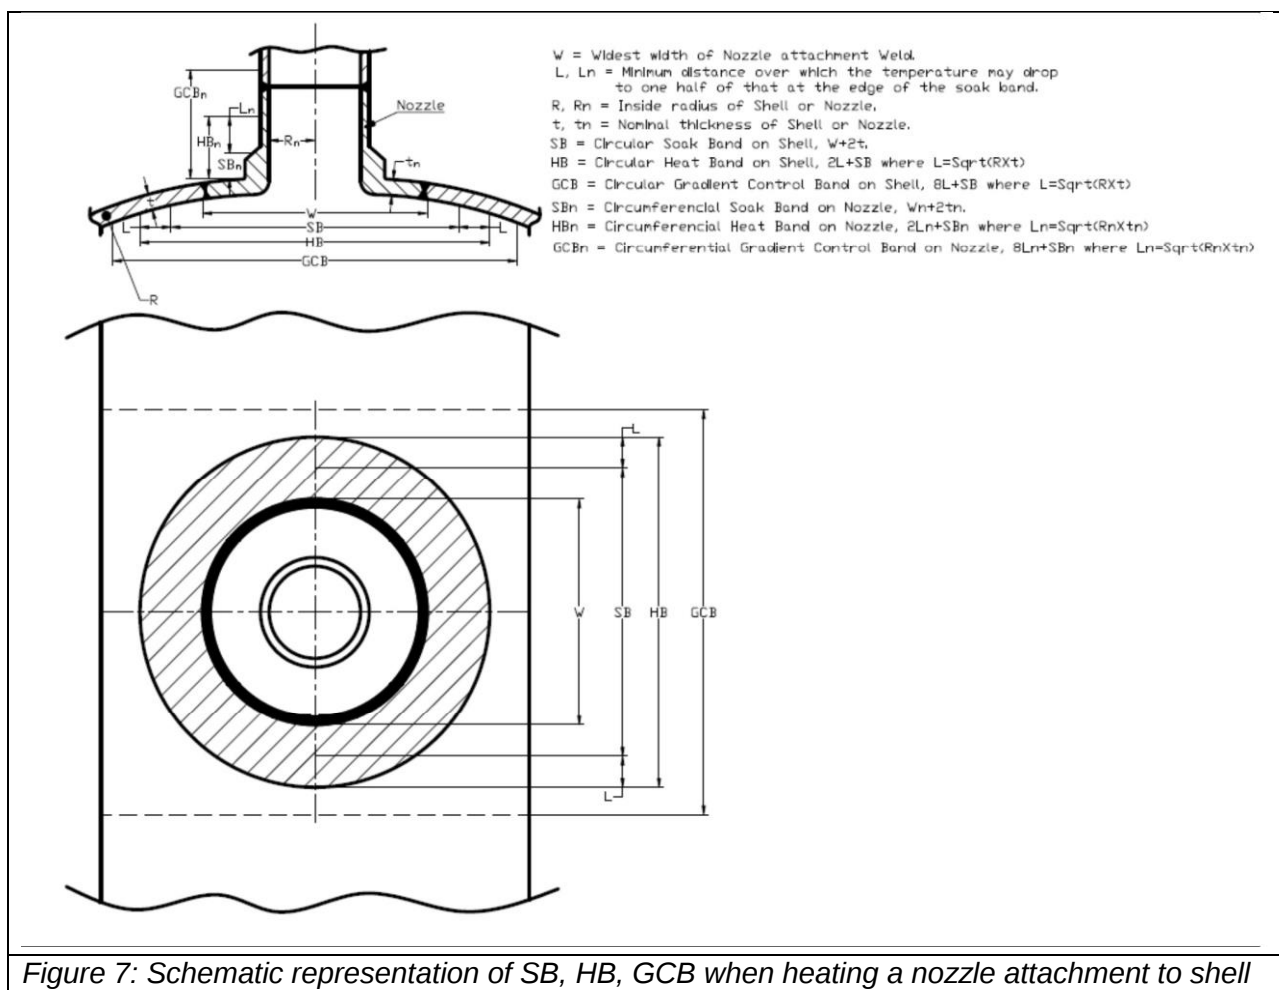

Figure 7: Schematic representation of SB, HB, GCB when heating a nozzle attachment to shell
3. **Nozzle attachment to shell (groove butt weld)** is referred in Figure 7, 8 & Table 4
Boot Assembly to Main Shell	Refer Table-2 & 4 & Figure 7 & 8